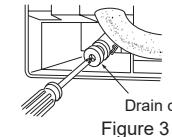

Figure 3
- Completely remove all burrs from the cut cross section of pipe. (Figure 3)